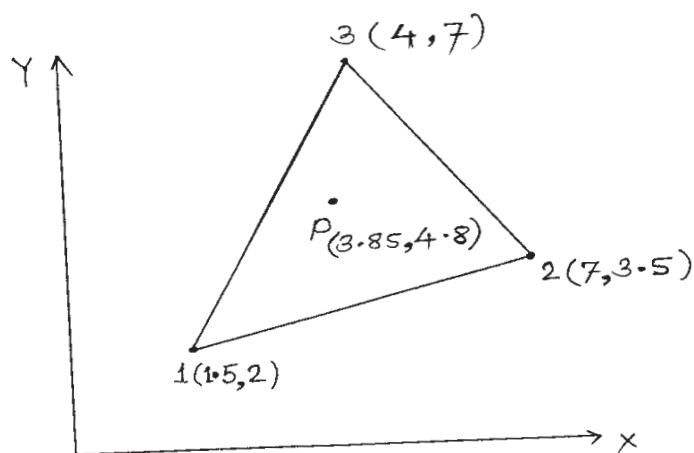

Figure 2.2
- c) Evaluate the shape function $N_1, N_2 \& N_3$ at the interior point P for triangular element shown in figure 2.2. [6]